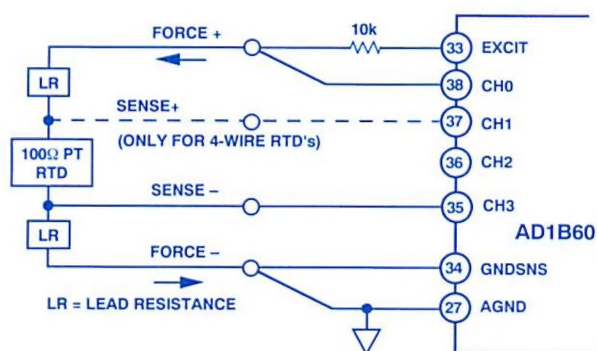

Figure 3. 1B60 with single-channel RTD input.
**RTDs:** Resistance thermal detectors (RTDs) use a conductor with a known temperature coefficient fabricated into a wound coil, film or foil grid. Because of platinum's insensitivity to contamination and ability to operate over a wide temperature range, it is the resistance element of choice for most RTDs. Figure 3 shows a typical connection for a single channel. The AD1B60 has built-in algorithms to linearize 100- $\Omega$  platinum RTDs ( $\alpha=0.00385$  and  $0.00392$ ). Lead compensation is provided for both 3- and 4-wire connections, and 200- $\mu$ A excitation current.